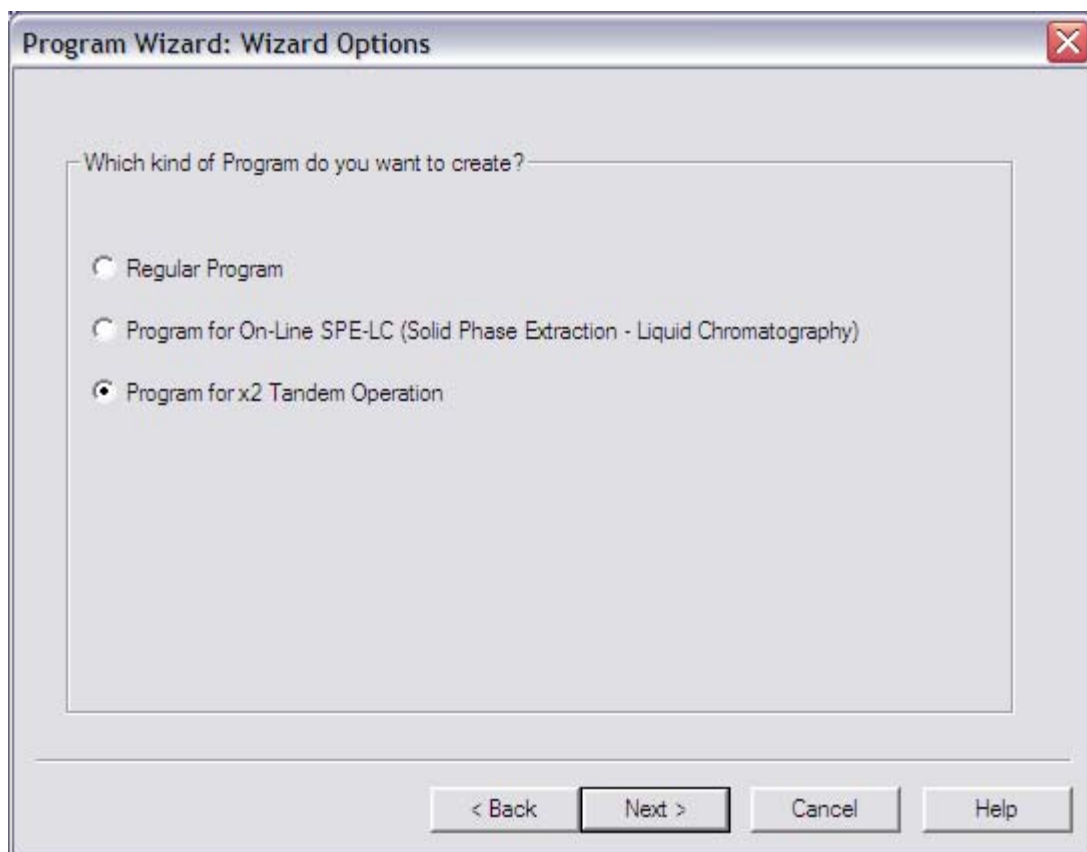

FIGURE 5-5: Program wizard– elect the type of program to create.
2. Next the wizard will ask to select the type of program to create. Select **Program for x2 Tandem Operation** to get a wizard that will offer additional options especially for Tandem LC (FIGURE 5-5).